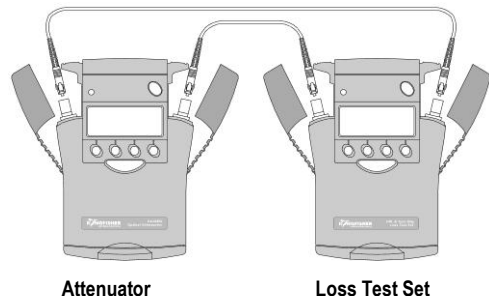

Figure 3. Test set up for KI7010B Series Attenuator Linearity/Accuracy Test (alternative method)
4. Connect the Attenuator and Loss Test Set as shown in Figure 3. Set the Attenuator to 1310 nm.